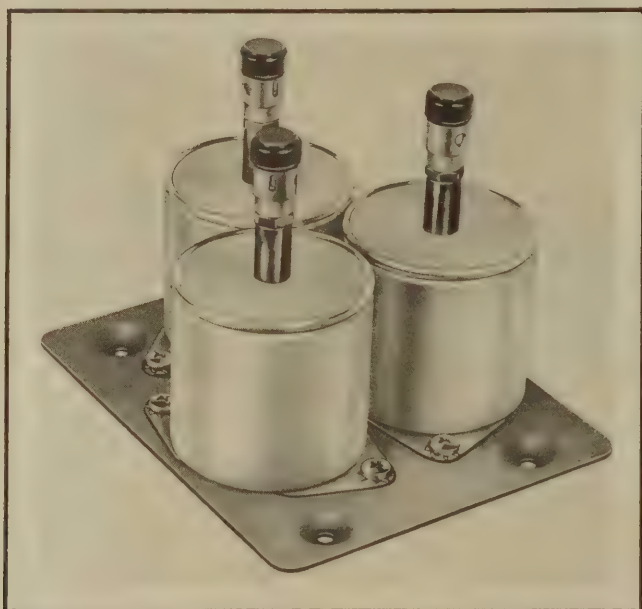

Figure 1-13—Antenna Shunt Capacitor CU-24/ART-13 (Navy Type -481628)
(1) Antenna Shunt Capacitor CU-24/ART-13 (see fig. 1-13) is supplied for use with the transmitter. It is used whenever required (see sec. II, par. 7b(2) (jj)), to properly tune and deliver power to fixed aircraft antennas (20 to 60 feet long) operating in the 2000 to 3000 kilocycle range of transmission frequencies. The shunt capacitor unit consists of three individual 25 micromicrofarad capacitors mounted on a plate which serves as a common connection to one terminal of each unit. Each capacitor may be connected individually or collectively to the antenna system by means of the terminal at the top, thus providing capacitance values of 25, 50, or 75 micromicrofarads.
(2) Mounting holes are provided in the base of the antenna shunt capacitor to facilitate attachment to the aircraft structure.